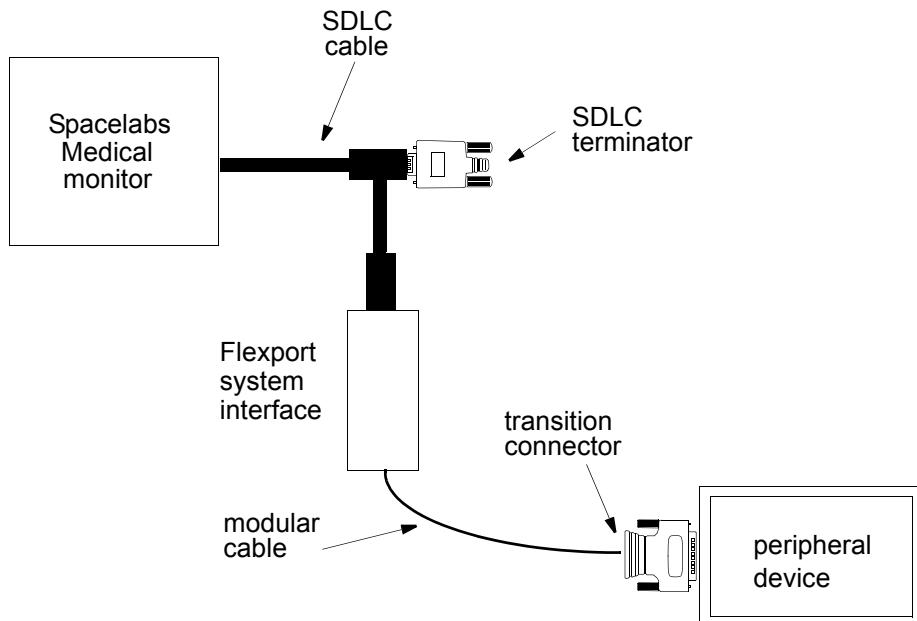

Figure 1-3: Flexport system interface connections
The Flexport system interface connects to a peripheral device such as a ventilator, IV pump, multigas analyzer, or capnograph as shown in *Figure 1-3*.
- Connect the SDLC cable to the 9-pin male connector on the Flexport system interface as shown in *Figure 1-3* on page 1-3.